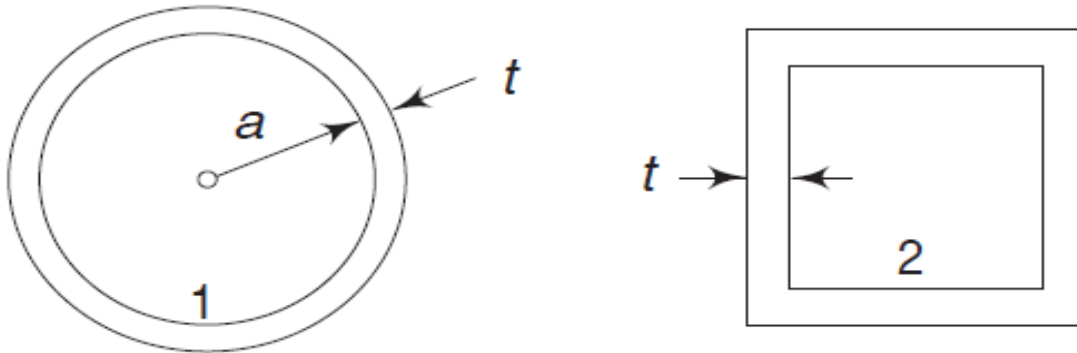

Figure 4
7. The two tubular sections 1 and 2 shown in Figure 4 have the same wall thickness 't' and same circumference. Neglecting stress concentration, find the ratio of the shear stresses for